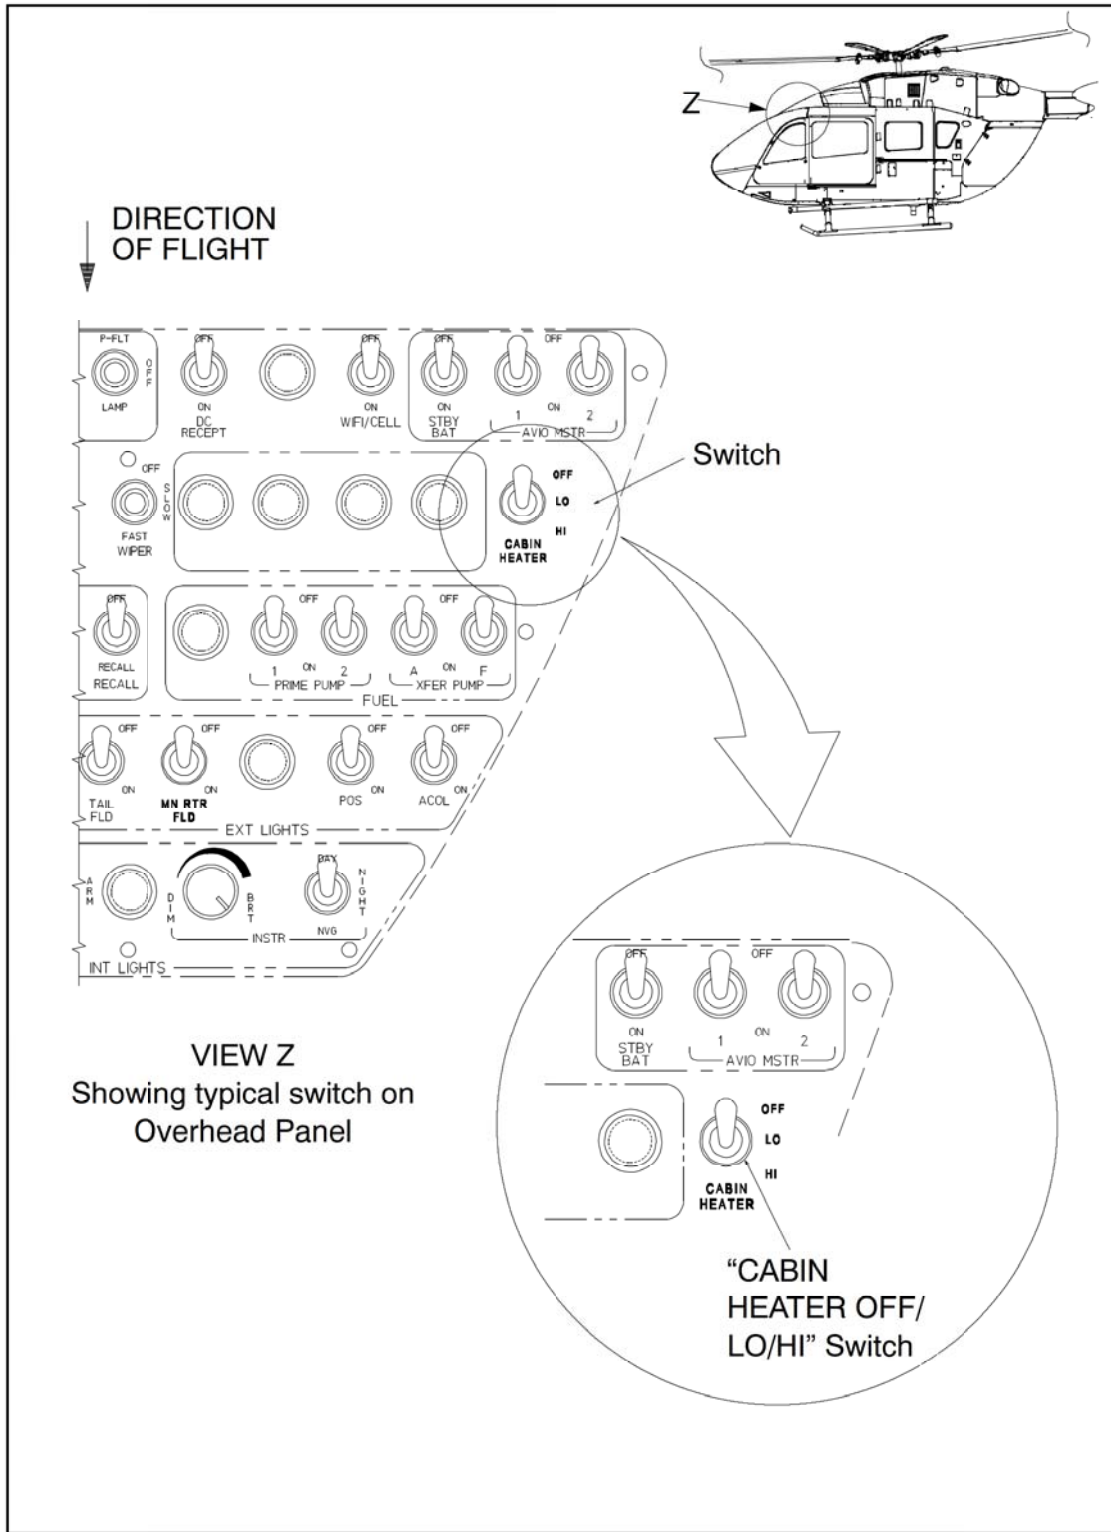

Figure 1 Switch Location on Overhead Panel
The Supplemental Cabin Heater Installation adds a heater to the passenger compartment supplementing the cabin heating during cold weather operations. The heater is operated by the pilot or copilot using a three position toggle switch (OFF/LO/HI) located in the overhead switch console. Selecting LO on the toggle switch utilizes the first 500W heater element and the fan. Selecting HI on the toggle switch adds the second 500W heater element to the circuit. Refer to Figure 1, VIEW Z.
(Refer to Figure 1)
CABIN HEATER switch (Refer to Figure 1) - Check OFF position
1) CABIN HEATER (three position toggle switch, Refer to Figure 1)